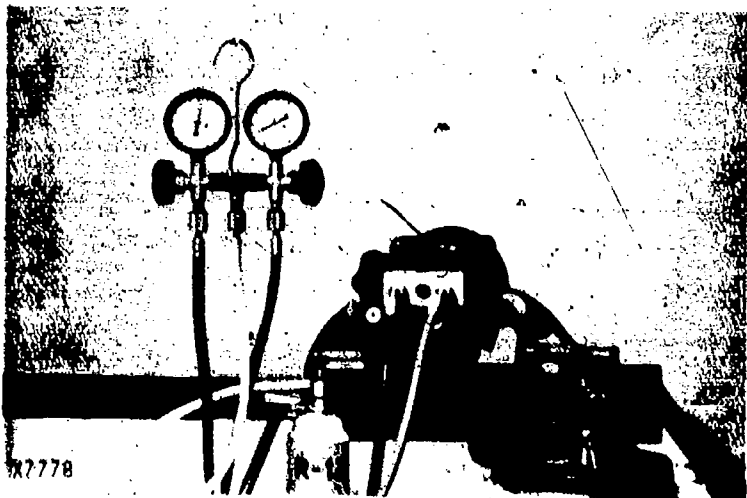

Fig 71 -- Connect Can Of Refrigerant-12 To Center Hose
1. With adapter test plate and pressure gauges still attached, connect a 15-oz. (450-g) can of Refrigerant-12 to charging hose of manifold (Fig. 71).